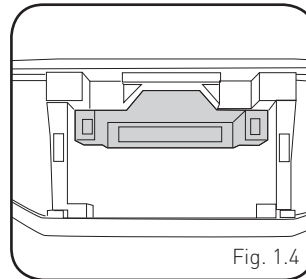

Fig. 1.4
5. To make room for the aftermarket radio, trim subdash and dash cavity as necessary. (Fig. 1.4)